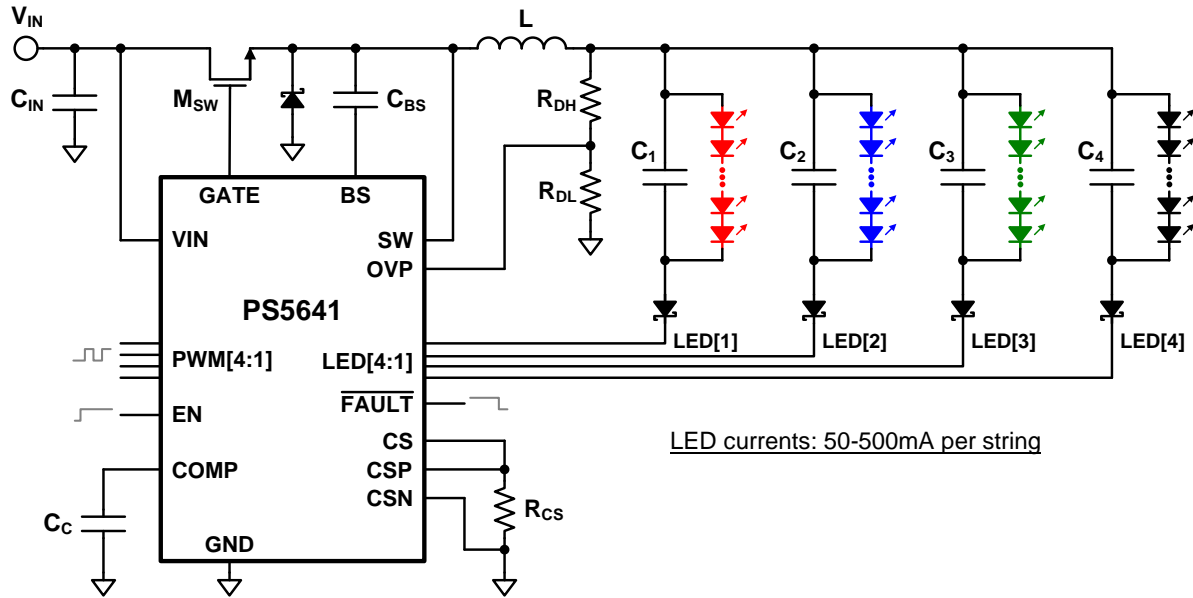

Figure 3: PS5641 Schematic
The unique PS5641 SIMO (see Figure 3) architecture multiplexes a single inductor (L) and switching transistor (M_{SW}) across four LED strings by sequencing four fully integrated channel switches (LED[1-4]). This topology delivers an amazingly small BOM consisting of the PS5641, one inductor, one MOSFET, and about twenty small discrete components. The total area for the driver circuit is just over 1 square inch.
This fully switch mode scheme enables up to 500mA per channel operation and is independent of forward voltage differences, making the PS5641 a great fit for RGBW and RGBA applications. A patent pending discontinuous conduction mode (DCM) control scheme allows the 4 LED strings to be independently regulated and dimmed with a single current sense resistor (Rcs) and compensation component (Cc). The PS5641, thereby, achieves a reduced PCB footprint and a reduced cost for a similar level of functionality and capability as other four channel solutions (see Figure 3).
The bypass capacitor ($C_{O1}-C_{O4}$) in parallel with each LED string maintains a DC current, with a small ripple, through the LEDs while the channel diodes allow each parallel combination of capacitor and LEDs to operate at different voltages. The channel diodes can be placed on either the anode or cathode side of the LED strings. As shown in Figure 3 and as done on the demo board the PS5641 can be configured to work with common anode LED arrays by placing the channel diodes on the cathode side.